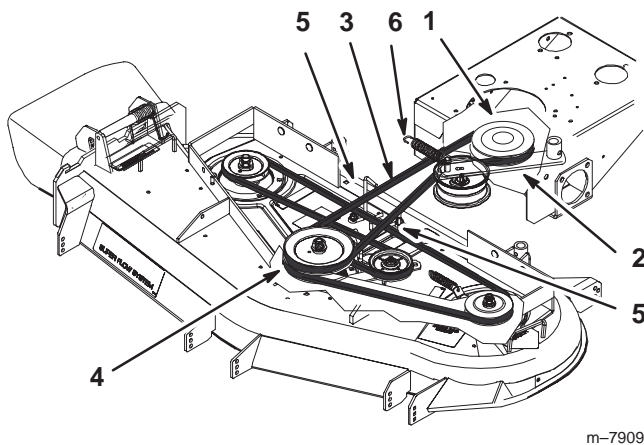

Figure 66
4. Remove the idler spring from idler arm. Remove the drive belt from the PTO engagement pulley and the center spindle pulley (Fig. 66).
5. Remove the worn drive belt (Fig. 66).
6. Install the new drive belt onto the PTO engagement pulley and the top groove of the center spindle pulley (Fig. 66).
7. Install belt onto idler pulley and then install idler spring (Fig. 66).
8. Adjust PTO drive belt guides an 1/8 inch (3 mm) from belt (Fig. 66).